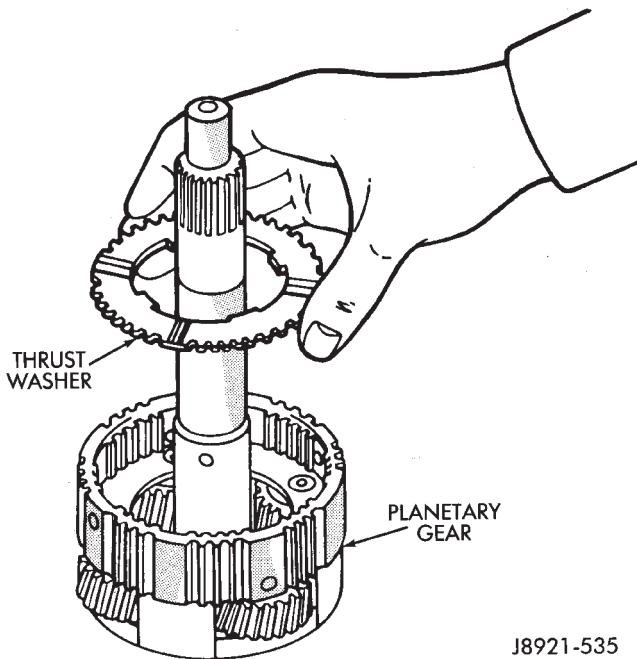

Fig. 15 Removing Planetary Thrust Washer
- (16) Remove thrust washer (Fig. 15).